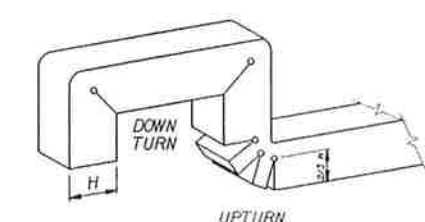

FIG. 2
3. Bend seal in desired position and install as shown in FIG. 2.
4. Bend seal down and install into joint as shown in FIG. 2. Continue normal seal installation.